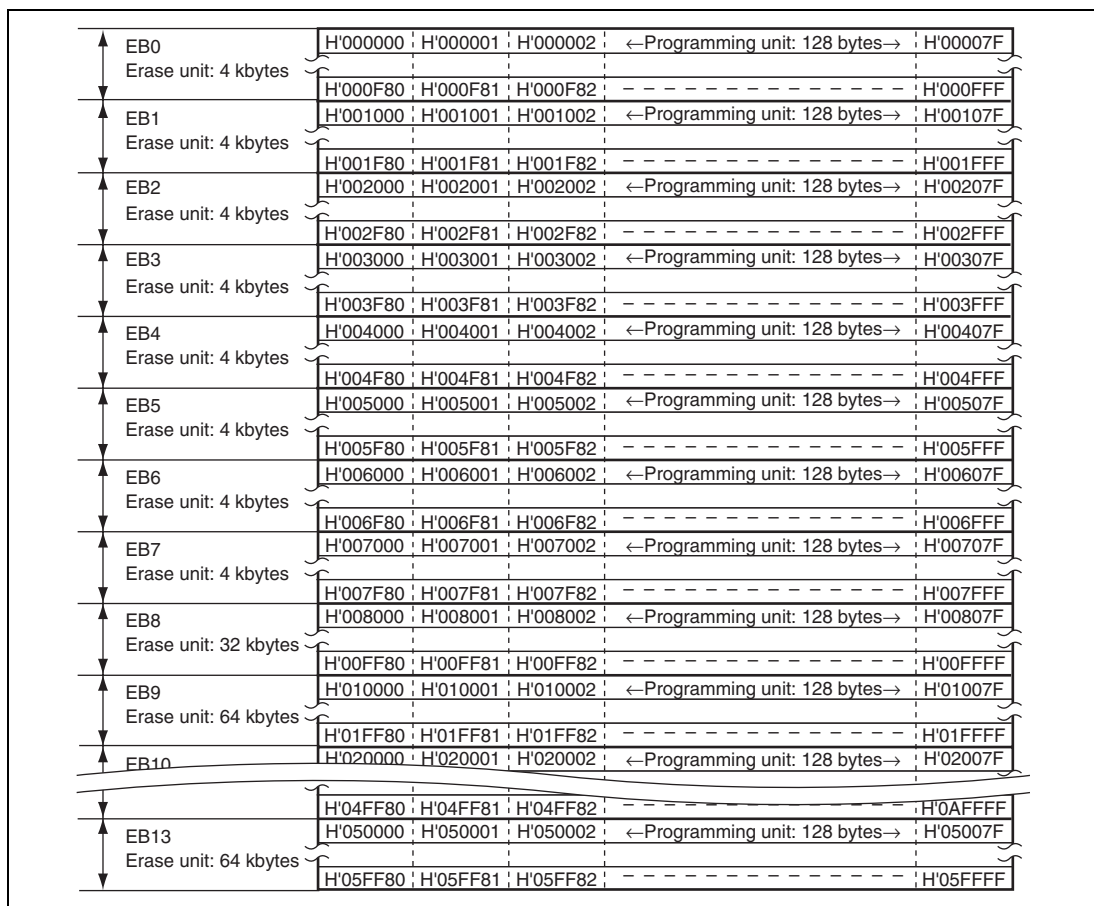

Figure 24.4 (1) User MAT Block Structure of H8SX/1652
Figure 24.4 (1) shows the block structure of the 384-Kbyte user MAT. The heavy-line frames indicate the erase blocks. The thin-line frames indicate the programming units and the values inside the frames stand for the addresses. The user MAT is divided into five 64-Kbyte blocks, one 32-Kbyte block, and eight 4-Kbyte blocks. The user MAT can be erased in these divided block units. Programming is done in 128-byte units starting from where the lower address is H'00 or H'80. RAM emulation can be performed in the eight 4-Kbyte blocks.